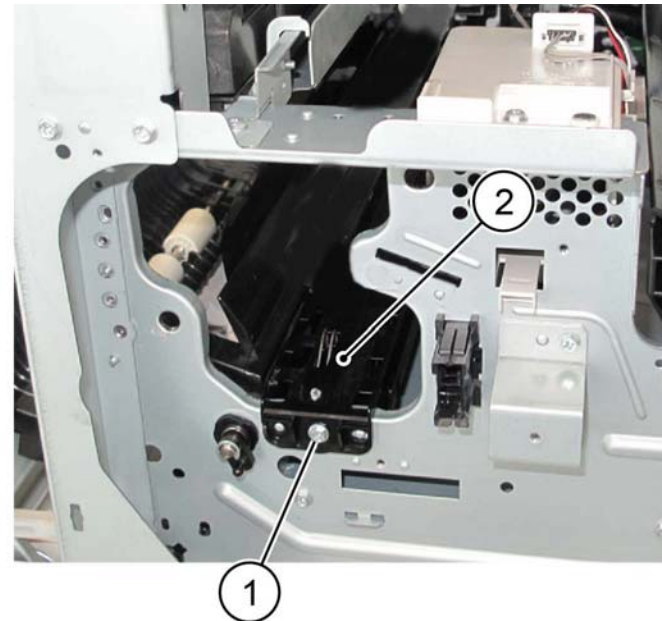

Figure 2 Lower guide assembly removal
6. Remove the lower guide assembly, Figure 2:
- a. Remove the screw (1).
- b. Remove the lower guide assembly (2).